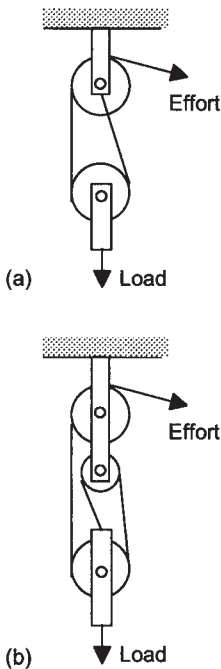

Figure 27.25 Problem 5
- 5 Determine the mechanical advantage of the pulley systems shown in Figure 27.25 if the weight of the pulley can be neglected.